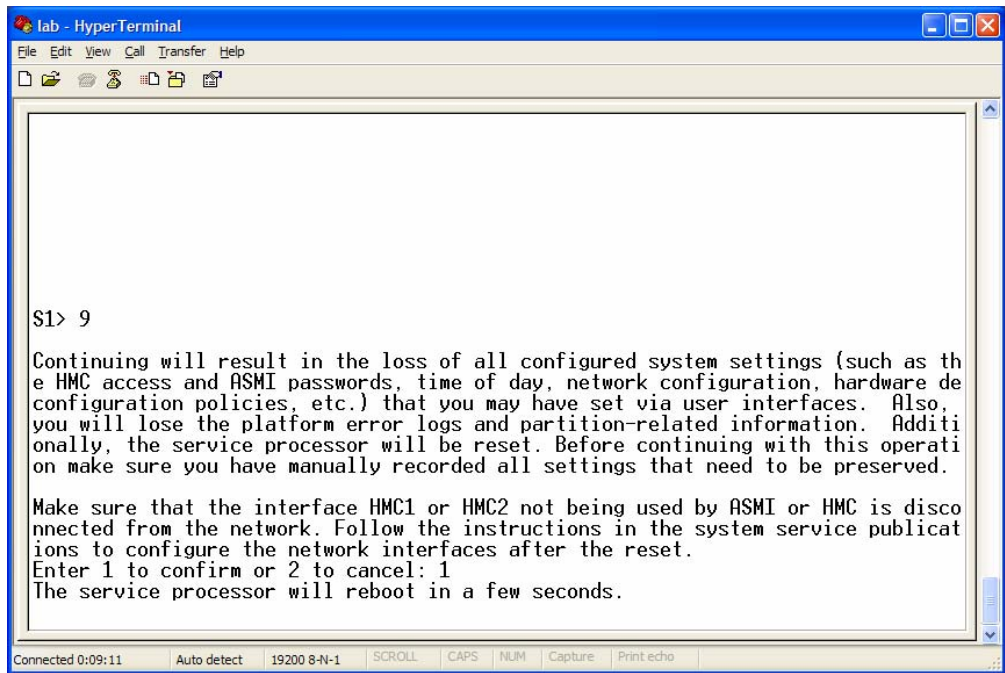

Figure 9. Viewing the informational screen that indicates a reboot will occur
- v. The system now reboots itself. You receive an additional informational message that the system is about to reboot (see Figure 9). After the reboot finishes, you can load the system updates.